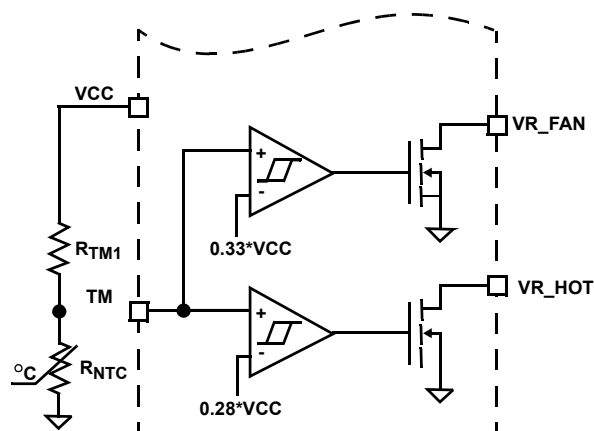
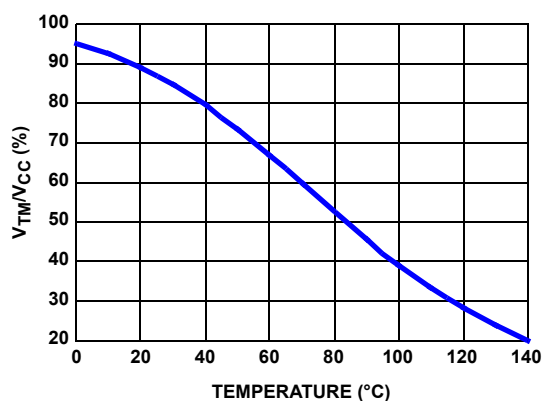

FIGURE 12. BLOCK DIAGRAM OF THERMAL MONITORING FUNCTION
FIGURE 13. THE RATIO OF TM VOLTAGE TO NTC TEMPERATURE WITH RECOMMENDED PARTS
The diagram of thermal monitoring function block is shown in Figure 12. One NTC resistor should be placed close to the power stage of the voltage regulator to sense the operational temperature, and one pull-up resistor is needed to form the voltage divider for TM pin. As the temperature of the power stage increases, the resistance of the NTC will reduce, resulting in the reduced voltage at TM pin. Figure 13 shows the TM voltage over the temperature for a typical design with a recommended 6.8k Ω NTC (P/N: NTHS0805N02N6801 from Vishay) and 1k Ω resistor RTM1. We recommend using those resistors for the accurate temperature compensation.
Based on VCC voltage, ISL6327A converts the TM pin voltage to a 6-bit TM digital signal for temperature compensation. With the non-linear A/D converter of ISL6327A, TM digital signal is linearly proportional to the NTC temperature. For accurate temperature compensation, the ratio of the TM voltage to the NTC temperature of the practical design should be similar to that in Figure 13.
1. Properly choose the voltage divider for TM pin to match the TM voltage vs temperature curve with the recommended curve in Figure 13.